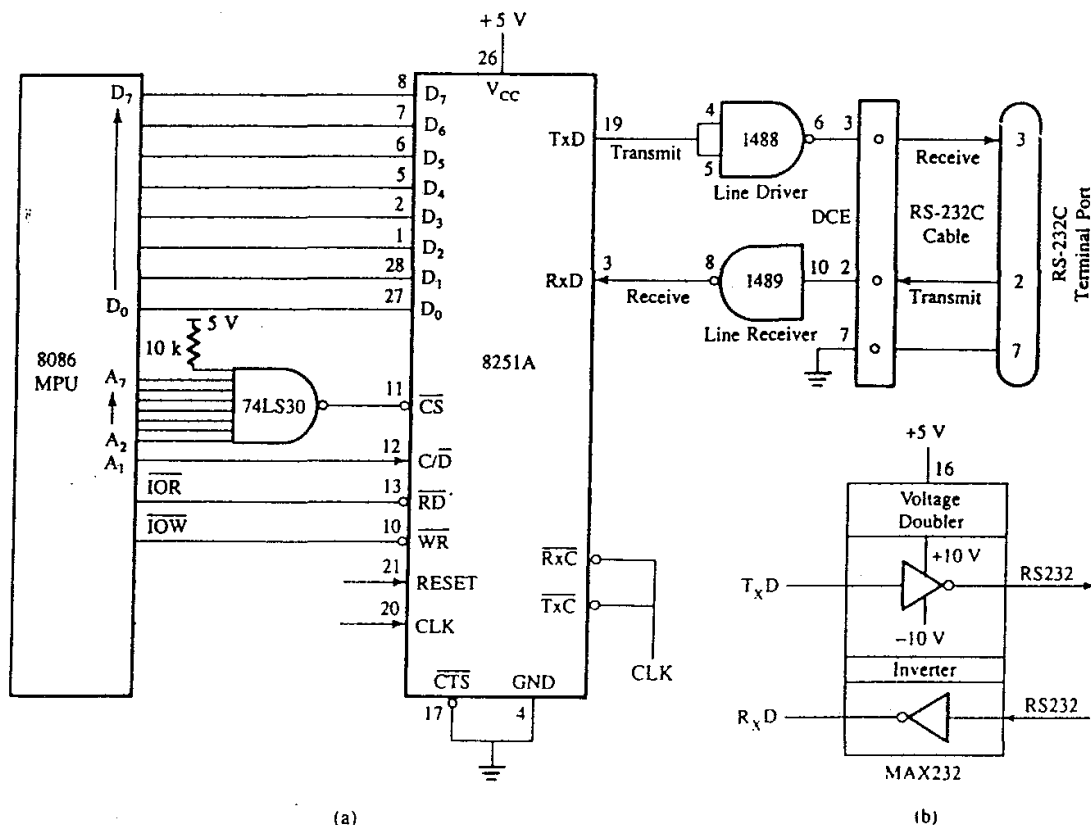

FIGURE 16.16 Schematic of Interfacing an RS-232 Terminal with an 8086 System Using the 8251A (a) and MAX 232 Logic Diagram (b)
1. Identify the port addresses of the control register, the status register, and the data register in Figure 16.16.
2. Explain the RS-232 signals and the operations of the line driver (MC 1488) and the line receiver (MC 1489) shown in Figure 16.16.
Figure 16.16 shows that three RS-232 signals—Tx_D, Rx_D, and Ground—are being used for serial communication between the CRT terminal and the 8086 system. The terminal transmits data on pin 2 and receives on pin 3; on the other hand, the 8086 system receives on pin 2 and transmits on pin 3 using the 8251A. Therefore, the terminal is connected as the DTE and the system plays the role of the DCE; the 8251A is part of the 8086 system.
RS-232 Drivers/Receivers: MAX 232 One of the drawbacks of the line driver MC 1488 is that it requires additional voltages ± 12 V from a power supply. Typically, such voltages are unavailable in systems compatible with the TTL logic. This difficulty can be resolved by using a specialized integrated device, MAX 232 (Figure 16.16(b)). It includes drivers and receivers (two each), and it generates ± 10 V internally by using a voltage doubler and inverter circuits. The MAX 232 can replace the 1488 and 1489 and eliminate the need for ± 12 V power supplies.